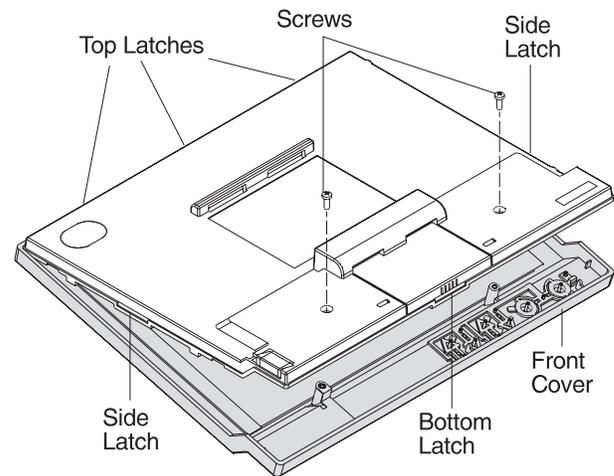

Figure 3-16. Removing the Front Cover
- 1 Remove the two screws. See Figure 3-16.
- 2 Open the front cover by gently prying and flexing the cover outward at the six latch locations shown in Figure 3-16. It is best to release at the bottom latch edge first. Then release the sides, leaving the top until last.